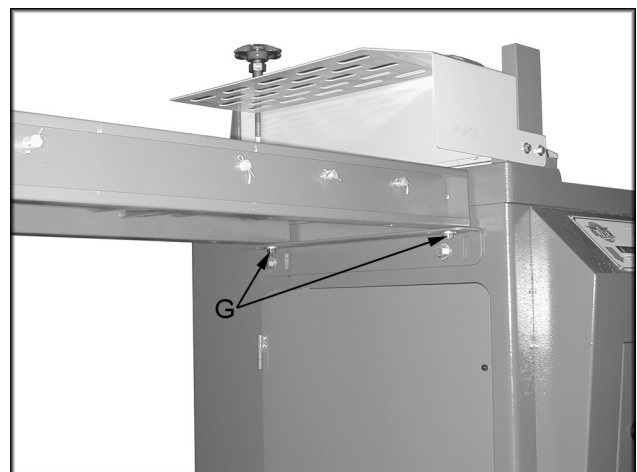

Figure 10
4. Flip the roller table right side up and mount it to the angle bracket on the cabinet. Use two hex cap bolts, two flat washers and two hex nuts (G, Figure 10). Do not fully tighten at this point. Repeat for opposite side.